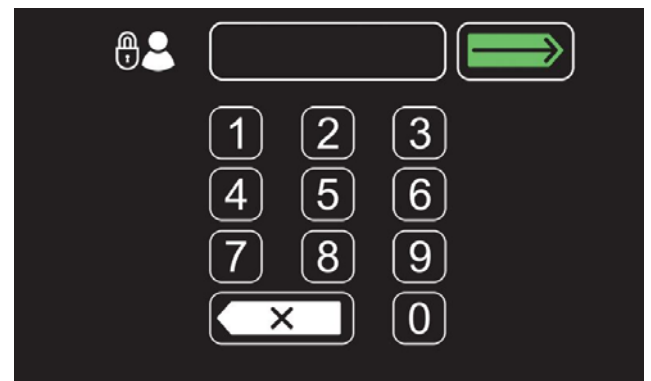

FIG. 176
- To enable the login screen at start up (Figure 176), see Enabling the Login.